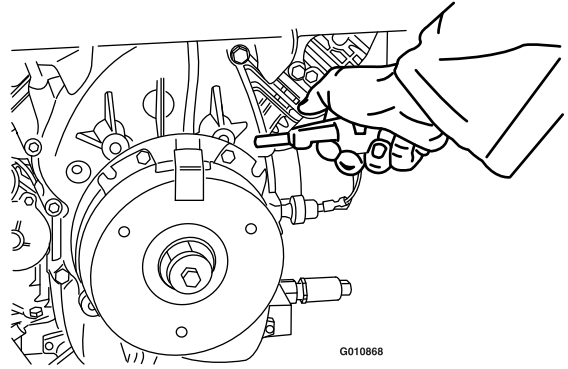

Figure 65
2. Using an air compressor, blow out any debris from under the brake pole and around the brake spacers (Figure 65).